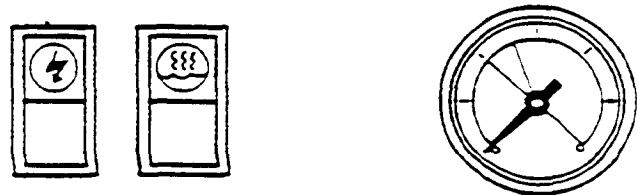

Figure 1. Steam Generator Controls
The steam generator controls are located on the front face of the steamer base unit. The switches are to the left of the pressure gage, as illustrated in Figure 1. Most Cleveland Range Convection Steamers have steam generator built into the base unit which supplies steam to the cooking compartments. However, an external steam supply may also be used. Units with a built-in boiler have both the **POWER** rocker switch and the **STEAM** momentary switch next to the pressure gage. Units with an external steam supply have the **POWER** rocker switch only. They do not have the **STEAM** momentary switch.
- a- Press the ON end of the POWER on-off rocker switch located next to the steam pressure gage (Figure 1). The red indicator light in the POWER rocker switch turns on and the steam generator begins to fill with water. This takes about 5 minutes